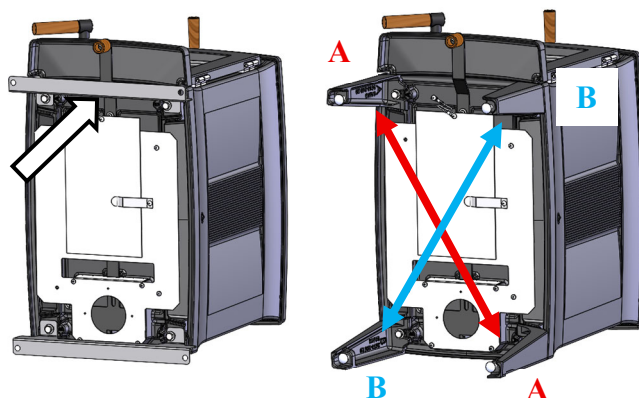

Figure 3 – Bracket Removal
3. Flip the stove on to its back (See Figure 3).
4. Unbolt the two shipping brackets from the stove and discard bolts and bracket (See Figure 3).
NOTE: Feet "A" and "B" are not interchangeable. Feet marked with an "A" are to be installed on the front-left and back-right of the stove, while feet marked with a "B" are to be installed on the front-right and back-left. See Figure 3 for clarity.